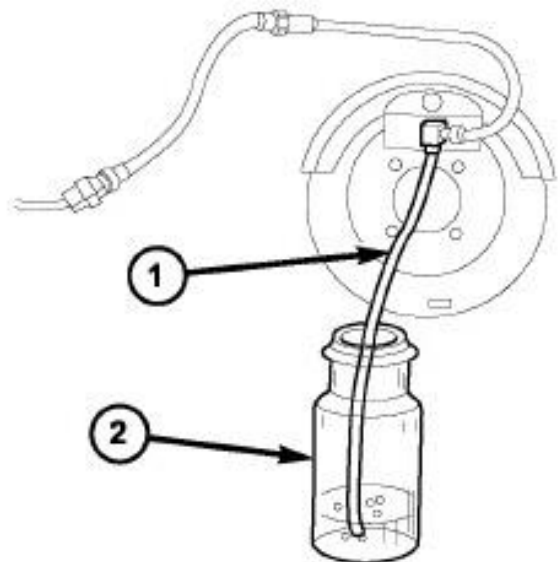

Figure 7 – Bleed Hose Immersed in Container of Brake Fluid
39. Attach one end of the bleed hose (1) to the bleed screw and insert the opposite end into a glass container (2) partially filled with brake fluid. Be sure the end of the bleed hose is immersed in fluid (Figure 7).